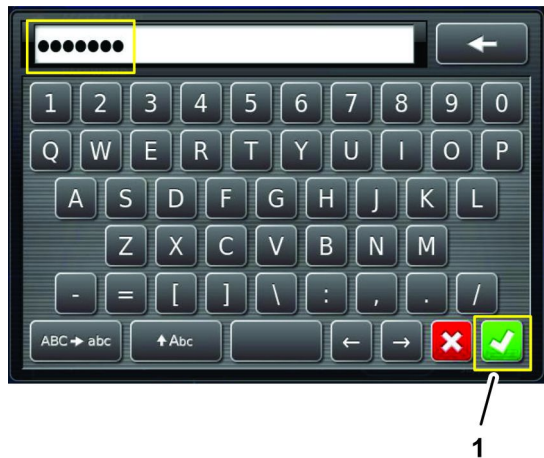

Figure 288
6. Use the on-screen keyboard to enter the password that you received in step 1, and press the confirm icon (Figure 288).